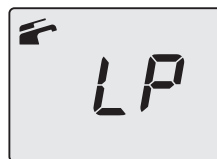

Figure 9.23
- Scroll through the various parameters by pressing the keys 14 (back) or 16 (forward) until **LP**, which alternates with the minimum heating water temperature (e.g. **45**), appears on the LCD display indicating the activation of the "chimney sweep function" at minimum power (Figure 9.23).